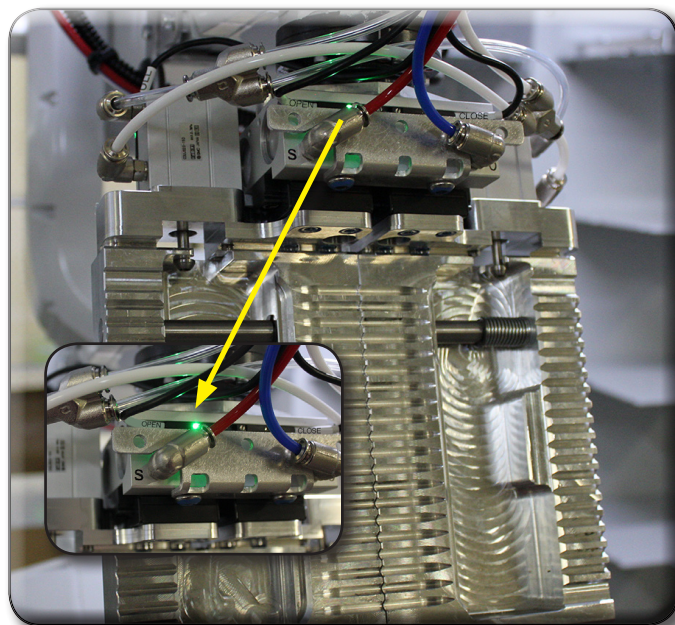

FIGURE 3. OPEN GRIPPER SENSOR
- c. With screwdriver, loosen the sensor and adjust until the sensor light is illuminated (as shown in Figure 3). Secure in place by tightening the set screw with screwdriver.